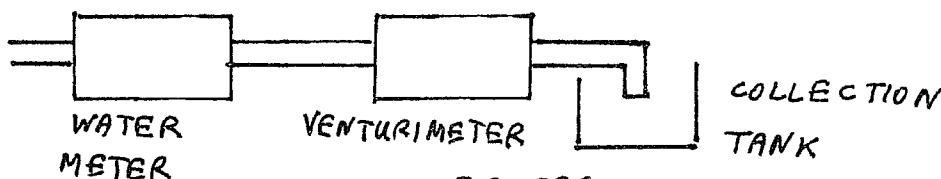

FIGURE 1
1) Water is sent through a domestic water meter and a venturimeter to a collecting tank, as shown in Figure 1. The least count of the water meter is 50 ml. The collection tank has a square cross-section of 0.5 m by 0.5 m. The water level in the collecting tank is measured using a scale marked in millimeters. A steady flow of water is sent through this system and measurements are made using the water meter, venturimeter and the collection tank.